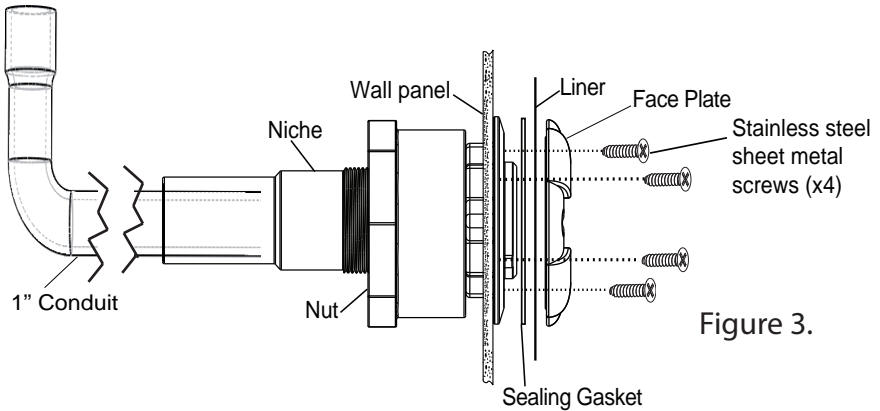

Figure 3.
4. Place the sealing gasket onto front of niche as seen on figure 3.